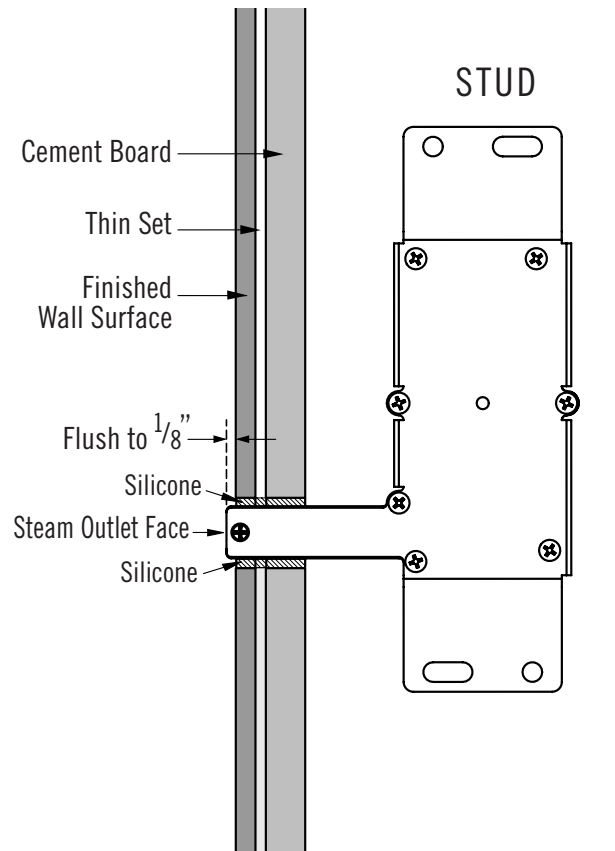

Figure 4
STEP 3. Determine the location of the finished wall surface. Mount the steam head between two studs using the four slotted holes to position the steam outlet face to be flush or extend $\frac{1}{8}$ " from the finished wall surface (see Fig. 4).
- Steam head must be installed in upright orientation, as shown in figure 4, to prevent traps.
STEP 8. After the finished wall surface has been installed use high temperature caulking around the steam outlet as required to make a waterproof seal. (see Fig. 4)